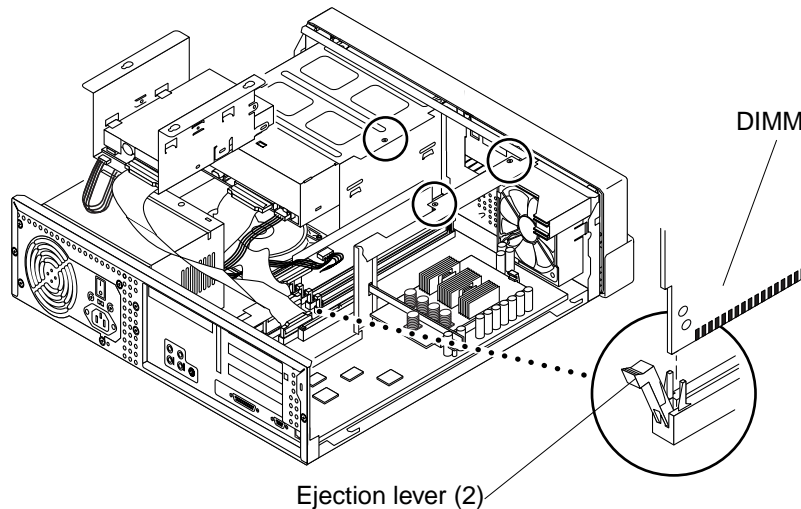

FIGURE 8-3 Removing and Replacing a DIMM
4. **Push the ejection levers away from the DIMM (FIGURE 8-3).**
2. **Install the DIMM as follows: (FIGURE 8-3)**